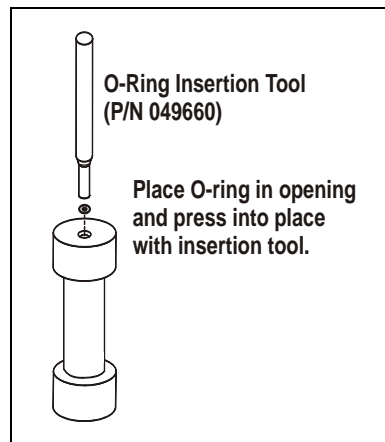

Figure 3-9. Installing a Cell End Cap O-Ring
- If an O-ring is missing, place a new O-ring over the opening in the end of the cell end cap. Press the O-ring into place, using the O-ring insertion tool (see Figure 3-9). For part numbers for O-rings, see Appendix D.
3. Place a new O-ring (P/N 049457, pkg. of 50 PTFE O-rings; P/N 056325, pkg. of 50 Viton O-rings) over the opening in the end cap. Press the O-ring into place, using the O-ring insertion tool (see Figure 3-9).
3. Place a new O-ring (P/N 049457, pkg. of 50 PTFE O-rings; P/N 056325, pkg. of 50 Viton O-rings) over the opening in the end of the rinse tube. Press the O-ring into place, using the O-ring insertion tool (see Figure 3-9).